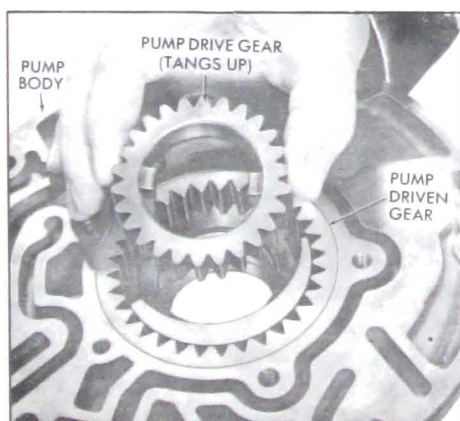

Figure 5-594
16. Mark drive and driven gears for reassembly and remove drive gear. See Figure 5-594.